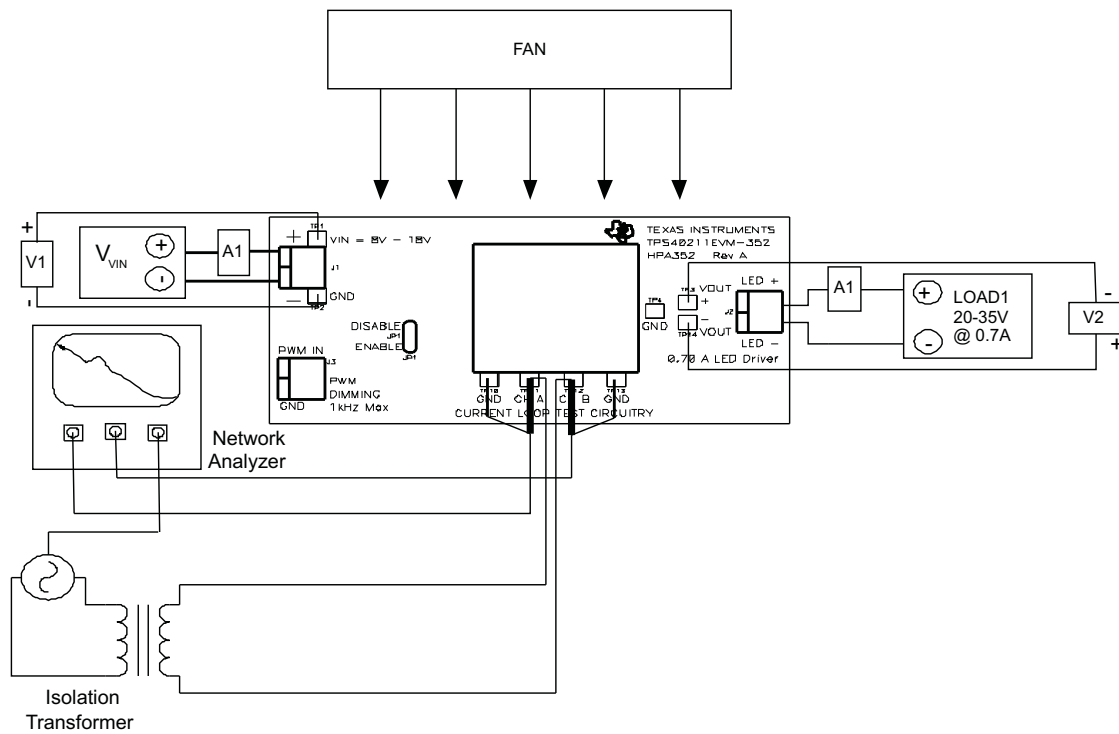

Figure 3. Control Loop Measurement Setup
7. Place fan as shown in Figure 3 and turn on, making sure air is flowing across the EVM.